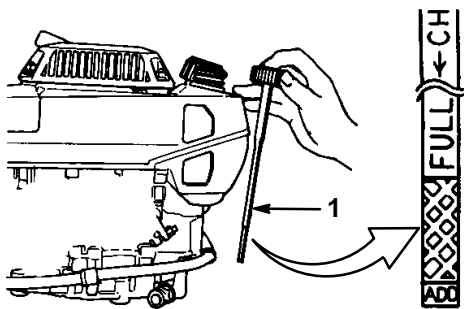

Figure 5
Before each use, ensure that the oil level is between the FULL and ADD marks on the dipstick (Fig. 5). Add oil if the level is low.
1. Position the mower on a level surface and clean around the dipstick (Fig. 5).
5. Remove the dipstick and check the level of the oil on the side of the dipstick with the FULL and ADD marks (Fig. 5).